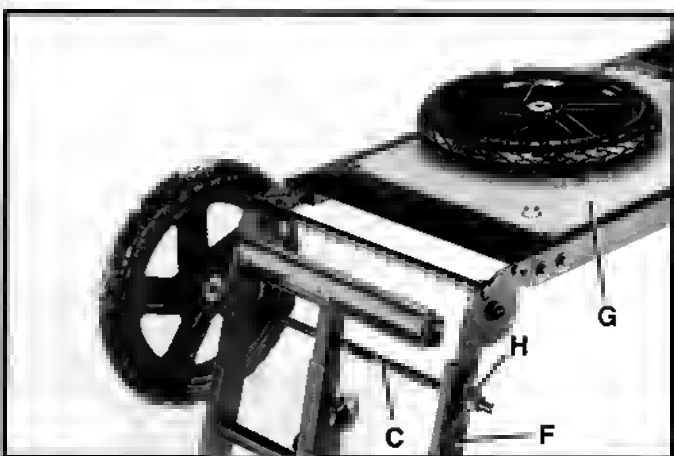

Fig. 18
3. Insert fraa and of axle (C) Fig. 18, through holes in leg assembly (F) as shown. **NOTE:** Wheels must be assemblad to legs on end of stand where the fiberboard (G) is located. Slide spacer (H) on axle against leg, as shown.